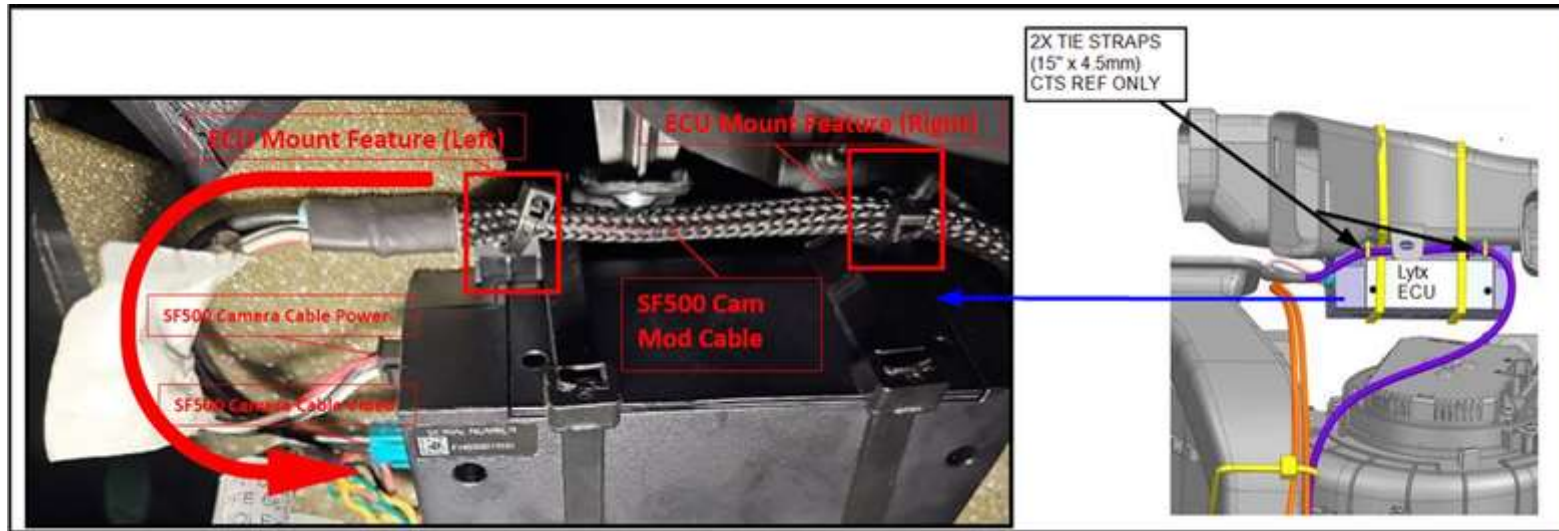

Figure 5
3. Fasten the SF500 Camera Module cable (pictured in purple) to the Lytx SF500 ECU using 2 tie straps 15" x 4.5mm threaded through the mounting ears of the ECU, refer Figure 5. Make sure the SF500 Camera Module cable (pictured in purple) is routed per figure 5. Make sure there is a service loop, providing strain relief, when attaching the cables back to the ECU. The left image in Figure 5 shows the service loop providing strain relief with the "U" shaped red arrow. Reconnect both power and video connectors to ECU.